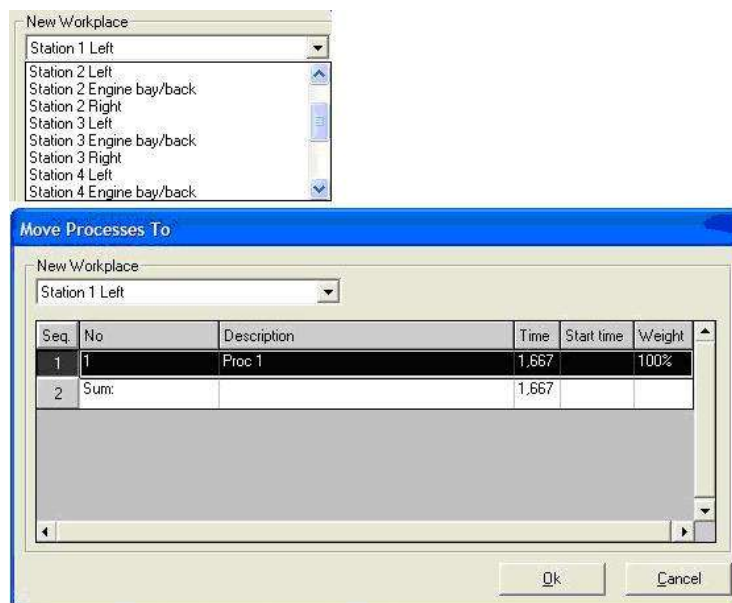

Figure 74: Move Processes to Dialog – Stations Selection List
- 2) To open the dialog, open the popup menu and click **Move Selected Processes To...** Please refer to the Figure 74.